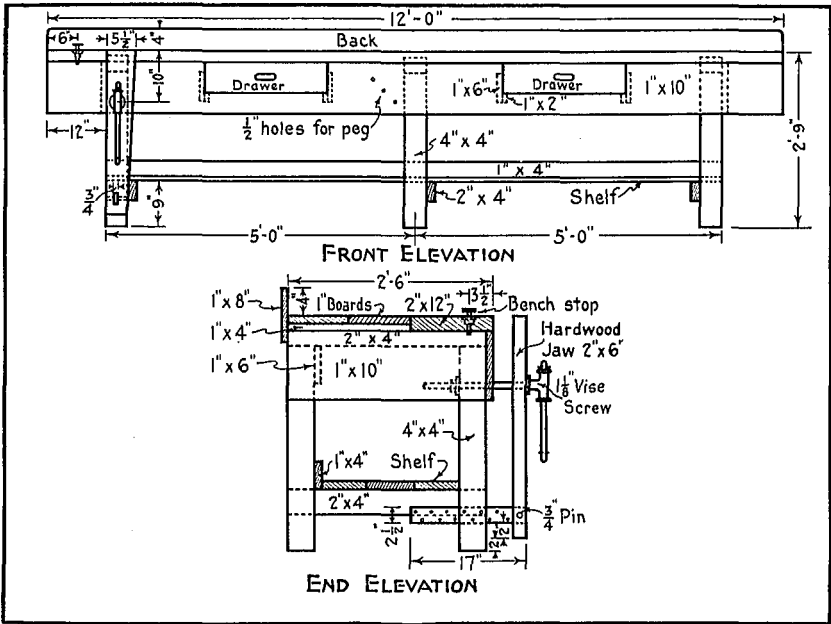

FIG. 3. PLAN 170, FARM WORKBENCH
**Workbench and vises.**—Every farm shop should have a substantial workbench equipped with a metalworking and a woodworking vise. Figure 3, Plan 170, shows a 12-foot bench which is an appropriate size. This bench can be constructed at a small cost by anyone who is handy with tools. The plan shows a woodworking vise. The jaw and the strut can be made, but the vise screw will have to be purchased at a